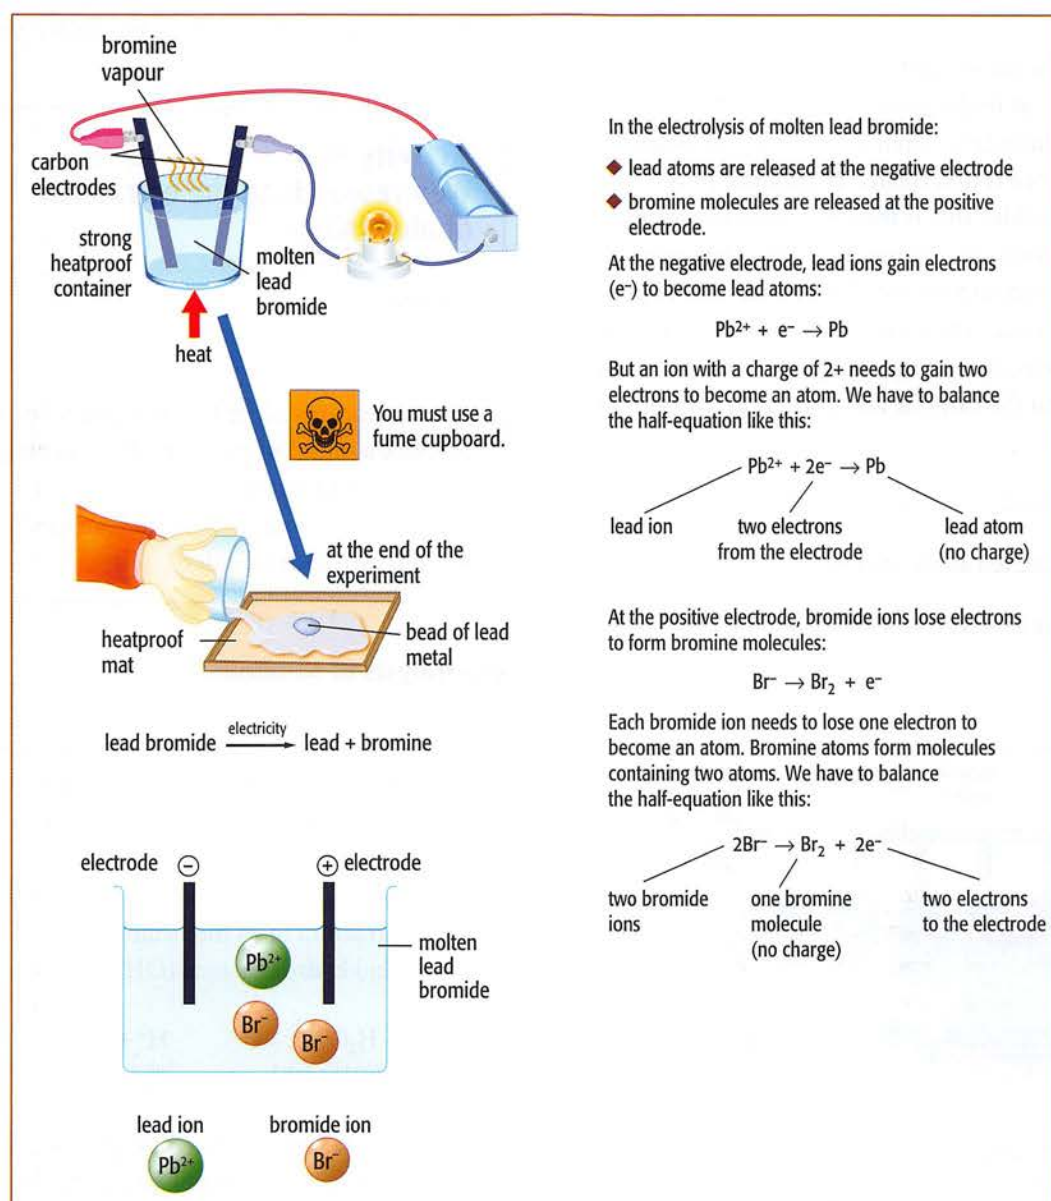

Figure 4.21 The electrolysis of lead(II) bromide.
Table 4.4 (overleaf) shows some further examples of this type of electrolysis, and the electrolysis of lead(II) bromide to form lead and bromine vapour is summarised diagrammatically in Figure 4.21. Electrolysis of molten salts is easier if the melting point of the salt is not too high.